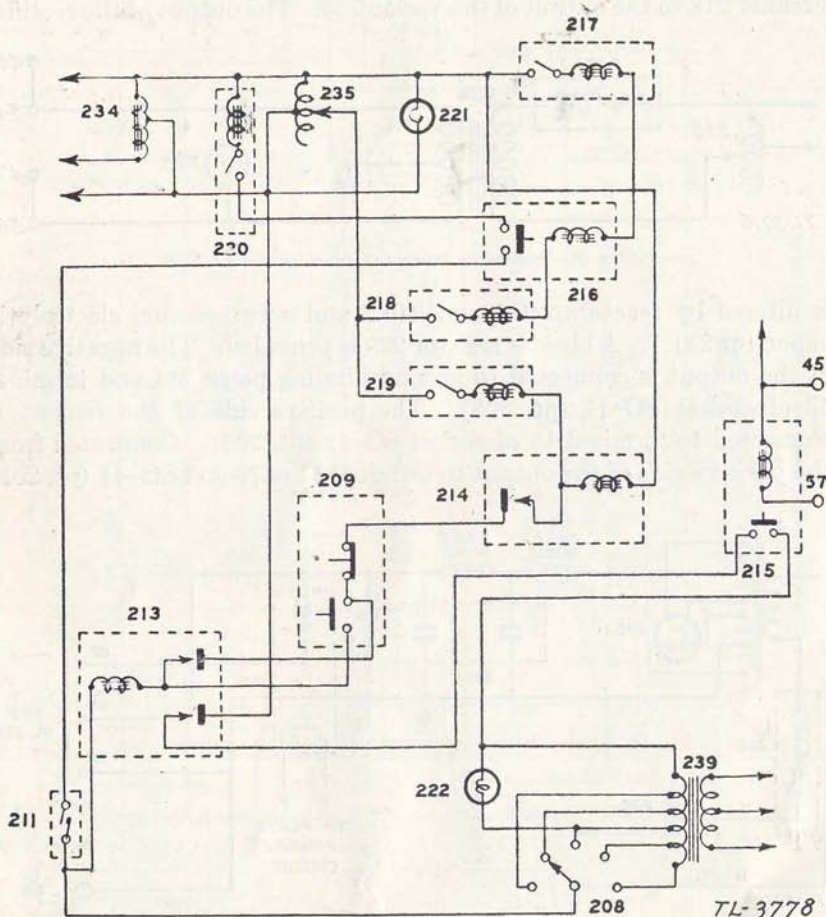

FIGURE 19.—Functional diagram of high-voltage rectifier primary circuit of RA-34-B.
d. *Plate transformer primary circuit.*—The primary of plate transformer 239 is connected through plate voltage adjusting switch 208, plate thermostat 211, contacts on plate interlock relay 216, and circuit breaker 220 to one side of the output of autotransformer 234. (See fig. 19.) The other side of the plate transformer 239 is connected